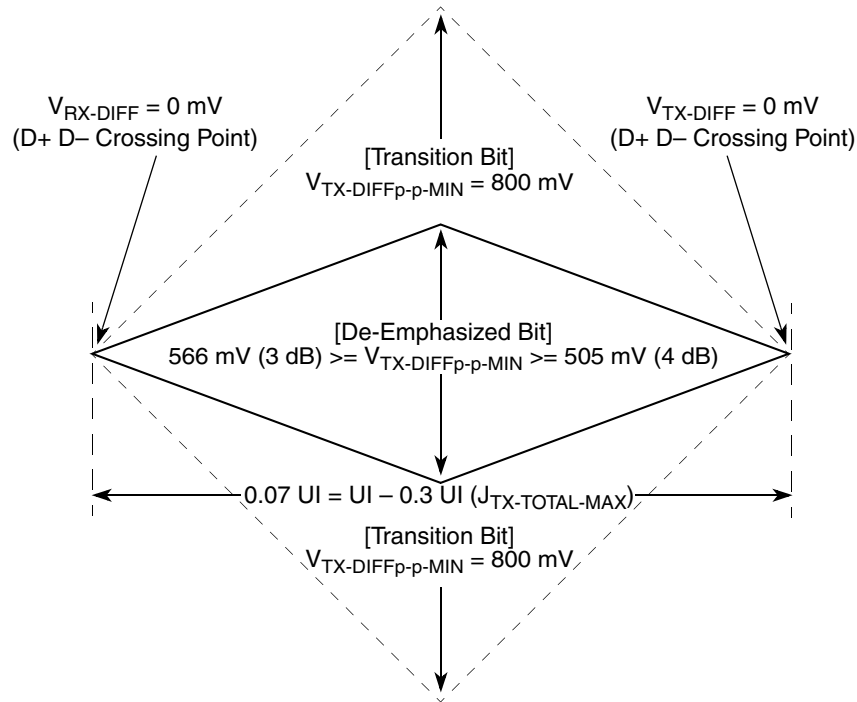
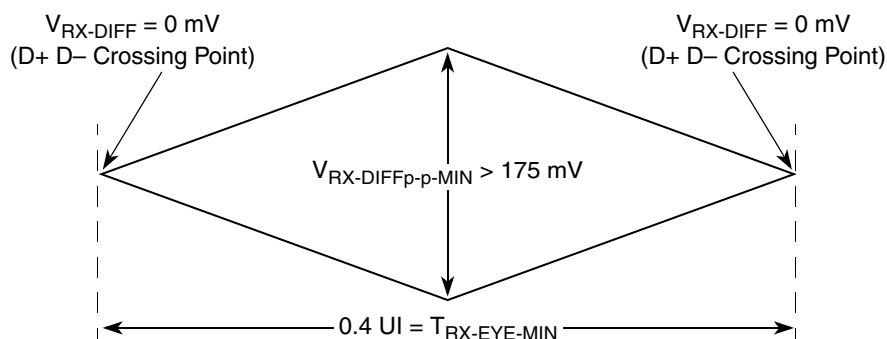
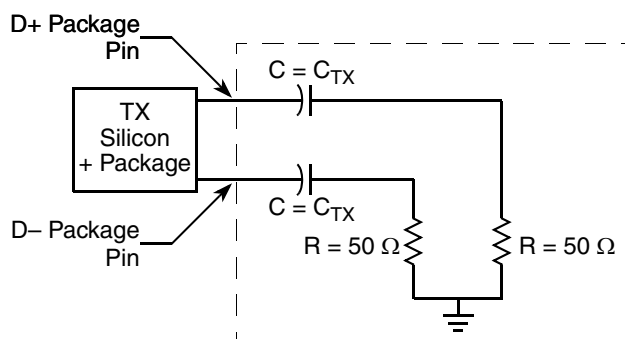

Figure 52. Minimum Transmitter Timing and Voltage Output Compliance Specifications
Figure 53. Minimum Receiver Eye Timing and Voltage Compliance Specification
Figure 54. Compliance Test/Measurement Load
2. Specified at the measurement point into a timing and voltage compliance test load as shown in Figure 54 and measured over any 250 consecutive TX UIs. (Also refer to the transmitter compliance eye diagram shown in Figure 52.)
4. The transmitter input impedance shall result in a differential return loss greater than or equal to 12 dB and a common mode return loss greater than or equal to 6 dB over a frequency range of 50 MHz to 1.25 GHz. This input impedance requirement applies to all valid input levels. The reference impedance for return loss measurements is 50 Ω to ground for both the D+ and D– line (that is, as measured by a vector network analyzer with 50- Ω probes—see Figure 54.) Note that the series capacitors C_{TX} is optional for the return loss measurement.
5. Measured between 20%–80% at transmitter package pins into a test load as shown in Figure 54 for both $V_{\text{TX-D+}}$ and $V_{\text{TX-D-}}$.
The TX eye diagram in Figure 52 is specified using the passive compliance/test measurement load (see Figure 54) in place of any real PCI Express interconnect +RX component.
2. Specified at the measurement point and measured over any 250 consecutive UIs. The test load in Figure 54 should be used as the RX device when taking measurements (also refer to the receiver compliance eye diagram shown in Figure 53). If the clocks to the RX and TX are not derived from the same reference clock, the TX UI recovered from 3500 consecutive UI must be used as a reference for the eye diagram.
4. The receiver input impedance shall result in a differential return loss greater than or equal to 15 dB with the D+ line biased to 300 mV and the D– line biased to –300 mV and a common mode return loss greater than or equal to 6 dB (no bias required) over a frequency range of 50 MHz to 1.25 GHz. This input impedance requirement applies to all valid input levels. The reference impedance for return loss measurements for is 50 Ω to ground for both the D+ and D– line (that is, as measured by a vector network analyzer with 50- Ω probes, see Figure 54). Note that the series capacitors CTX is optional for the return loss measurement.
The RX eye diagram in Figure 53 is specified using the passive compliance/test measurement load (see Figure 54) in place of any real PCI Express RX component.
In general, the minimum receiver eye diagram measured with the compliance/test measurement load (see Figure 54) will be larger than the minimum receiver eye diagram measured over a range of systems at the input receiver of any real PCI Express component. The degraded eye diagram at the input receiver is due to traces internal to the package as well as silicon parasitic characteristics which cause the real PCI Express component to vary in impedance from the compliance/test measurement load. The input receiver eye diagram is implementation specific and is not specified. RX component designer should provide additional margin to adequately compensate for the degraded minimum receiver eye diagram (shown in Figure 53) expected at the input receiver based on some adequate combination of system simulations and the return loss measured looking into the RX package and silicon. The RX eye diagram must be aligned in time using the jitter median to locate the center of the eye diagram.
The reference impedance for return loss measurements is 50 Ω to ground for both the D+ and D– line (that is, as measured by a vector network analyzer with 50- Ω probes, see Figure 53). Note that the series capacitors, CTX, are optional for the return loss measurement.
The AC timing and voltage parameters must be verified at the measurement point, as specified within 0.2 inches of the package pins, into a test/measurement load shown in Figure 54.